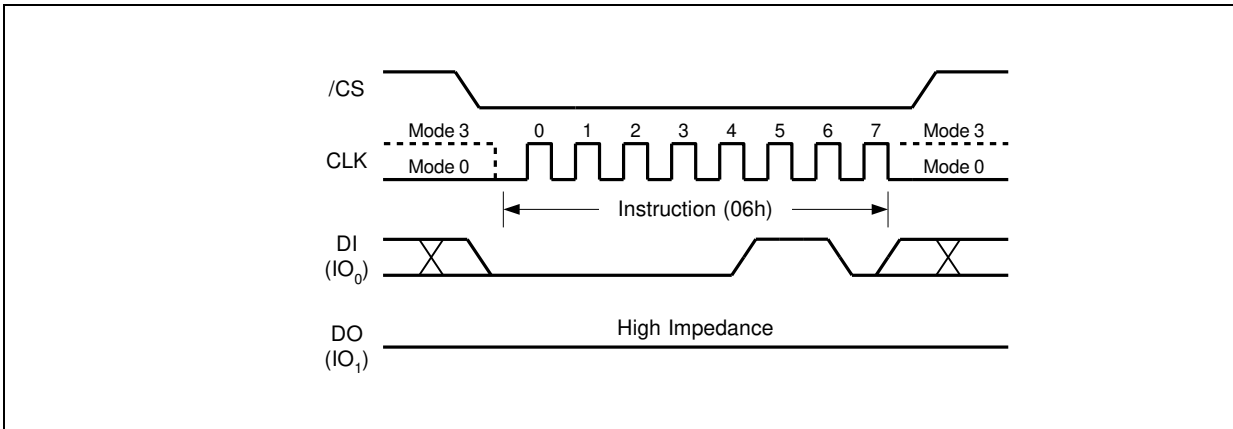

Figure4. Write Enable Instruction
The Write Enable instruction (Figure 4) sets the Write Enable Latch (WEL) bit in the Status Register to a 1. The WEL bit must be set prior to every Page Program, Quad Page Program, Sector Erase, Block Erase, Chip Erase, Write Status Register and Erase/Program Security Registers instruction. The Write Enable instruction is entered by driving /CS low, shifting the instruction code “06h” into the Data Input (DI) pin on the rising edge of CLK, and then driving /CS high.